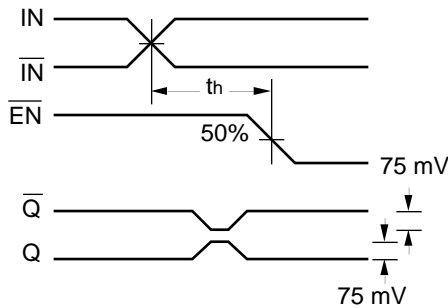

Figure 2. Hold Time
- The hold time is the minimum time that \overline{EN} must remain asserted after a negative going IN or a positive going \overline{IN} to prevent an output response greater than $\pm 75mV$ to that IN/ \overline{IN} transition (see Figure 2).